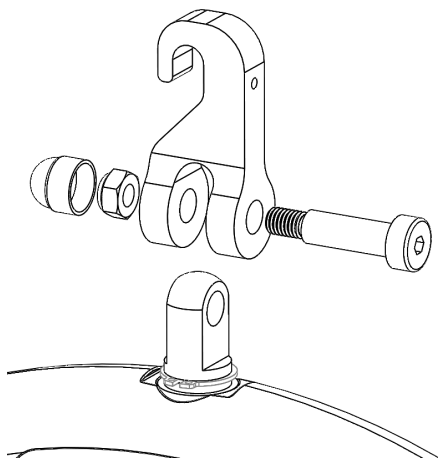

Figure 10
Remove the Swifthook using the appropriate Allen key (5mm) and wrench (13mm). See figure 10.